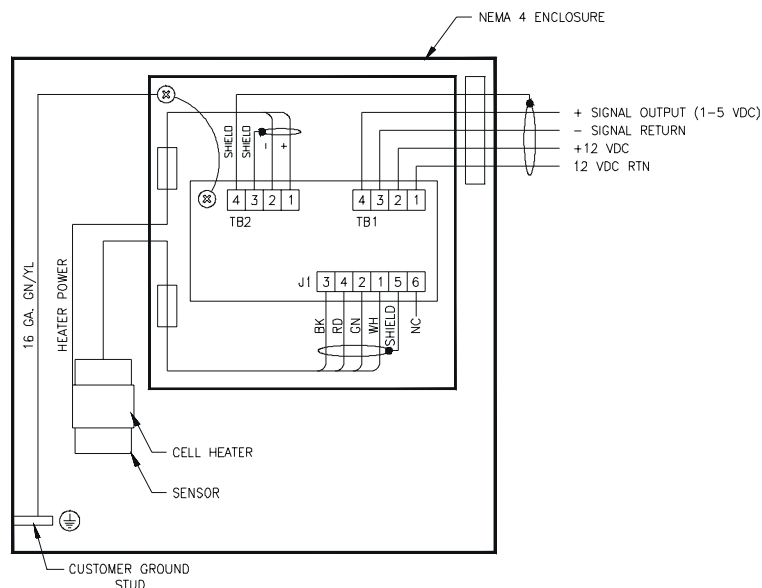

Figure 3-4: Transmitter Electrical Connections
2. Connect the 4 wires and shield to the terminal block as shown in Figure 3-4.